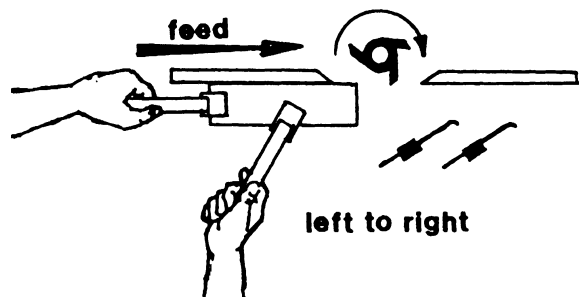
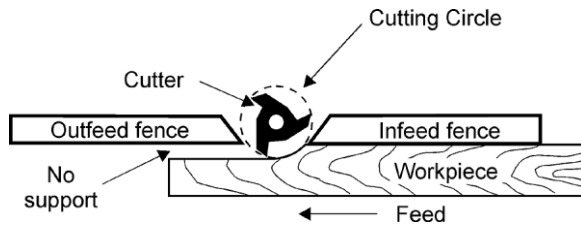
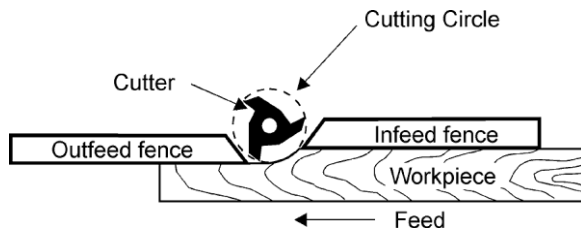

Figure 21
Figure 23
Figure 24
*Clockwise Setup* – With the cutter installed as shown in Figure 21, feed the workpiece from *left to right*.
When the shaping operation removes the entire edge of the work, e.g. in jointing or making a full bead, the shaped edge will not be supported by the outfeed fence when both fences are in line, Figure 23. In this case, the stock should be advanced to the position shown in Figure 21 and stopped. Turn off the machine and move the outfeed fence forward to contact the workpiece, Figure 24. Remove the workpiece, start the motor, and then continue the operation.